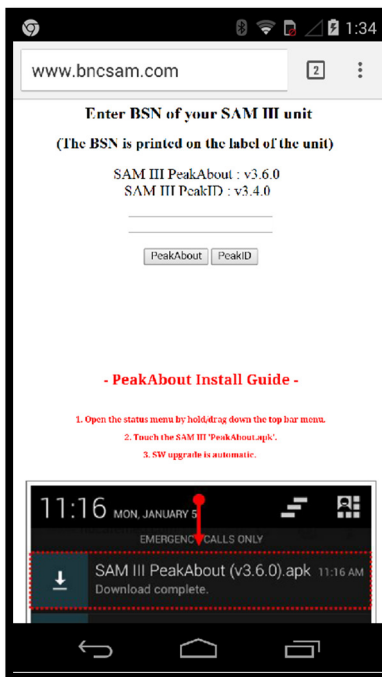

Figure 4.38. PeakAbout software upgrade, step 2
2. In the pop-up window (Figure 4.38), enter the BSN number from the label on the detector unit (Figure 2.1), then touch the **PeakAbout** button.